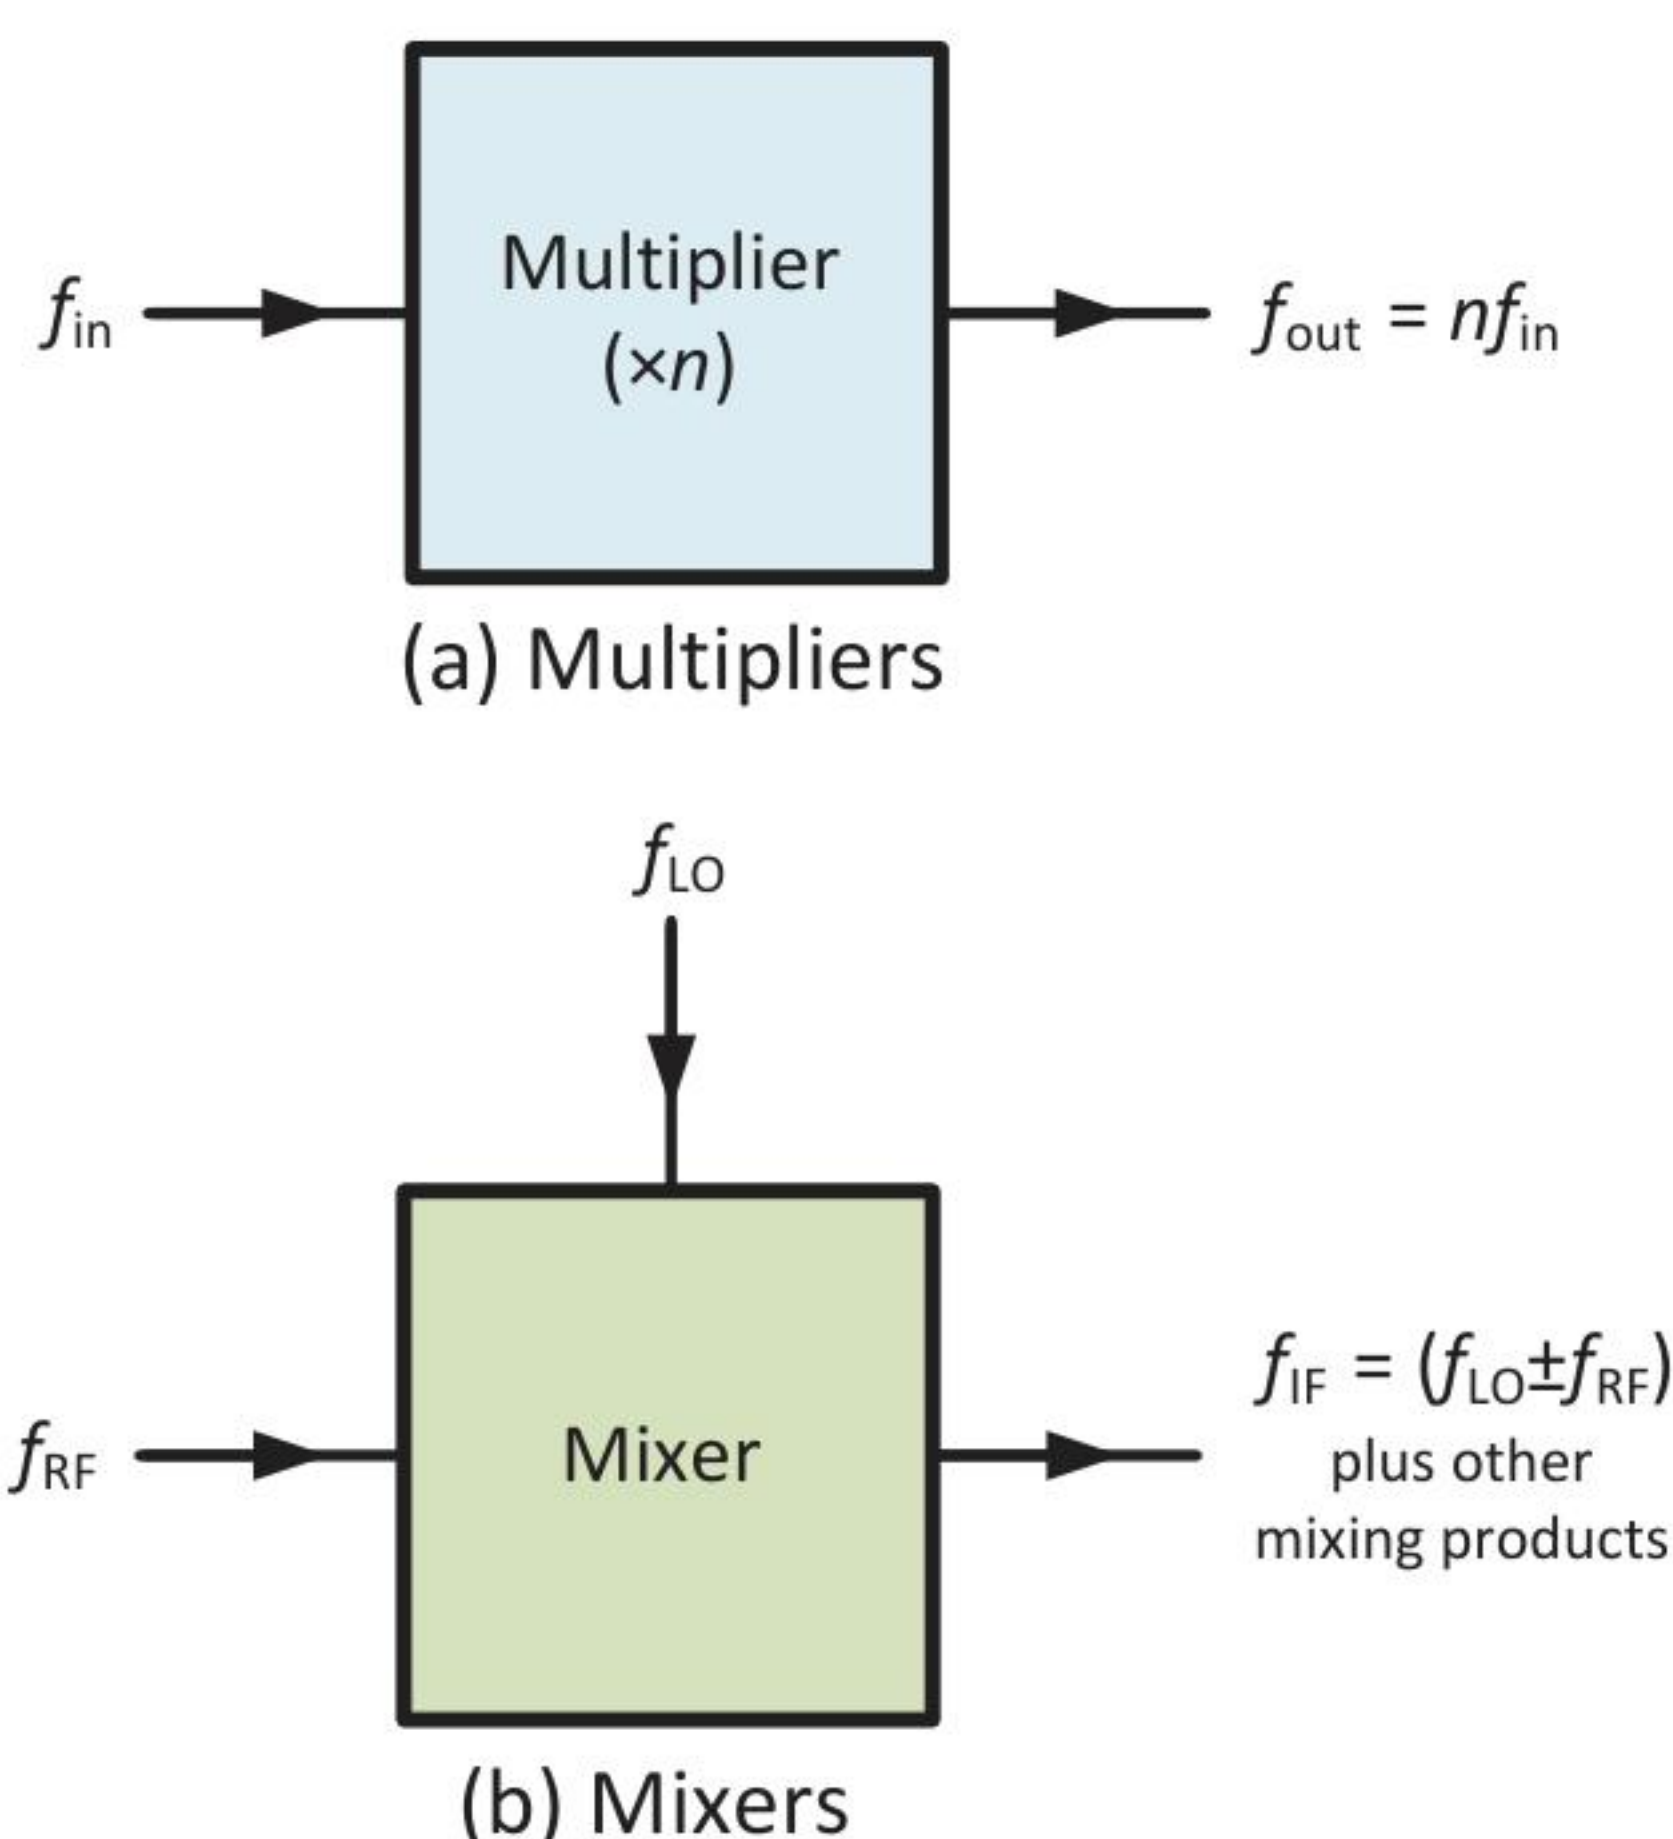

Fig.8.1: the difference between a multiplier and a mixer.
Fig.8.1 shows the basic principles of the two types of frequency changer. In Fig.8.1(a) the input frequency, f_{in} , is multiplied by a factor of n to produce an output frequency, f_{out} , where $f_{out} = n \times f_{in}$. Typical values of n range from two to five.
In Fig.8.1, the intermediate frequency output, f_{IF} , is generated by mixing the input frequency, f_{RF} , with the local oscillator (LO) frequency, f_{LO} . The mixing process is not simply additive as it is with a basic audio mixer, but instead relies on non-linear characteristics within the mixer.
In Fig.8.1(b), the intermediate frequency at the output of the mixer can be calculated as $f_{IF} = (f_{LO} \pm f_{RF})$. So, for example, if an IF of 455kHz is to be obtained from an RF input at 14MHz, the local oscillator would need to be running at either 14.455MHz (above the RF input) or 13.545MHz (below the RF input).